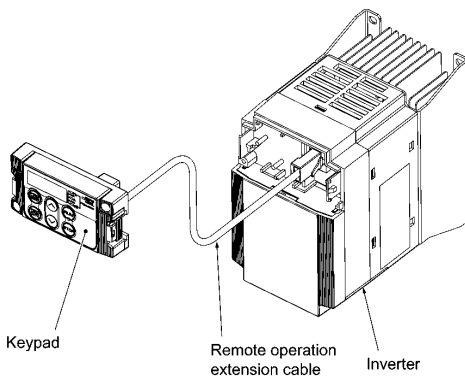

Figure 2.24 Installing Keypad at a Remote Site (e.g. for Operation on Hand)
- Installing a keypad at a remote site (e.g. for operation on hand) (Refer to Figure 2.24.)